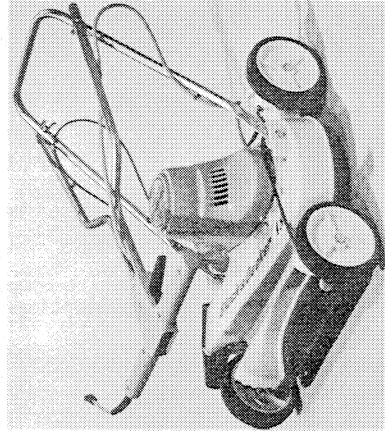

FIGURE 30
**FOLDING MOWER HANDLE** — Deluxe Mowers Only. (Handle on No. 8016 Standard Mower is not designed to fold over.) Loosen wing nuts and fold upper part of handle toward front (toward discharge opening) of mower (Figure 29). **CAUTION: HOLD POWER CORD AWAY FROM PIVOT POINT WHEN FOLDING HANDLE TO PREVENT ANY POSSIBLE CORD PINCHING** — SEE FIGURE 29. Final folded position of handle is shown in Figure 30 on next page.